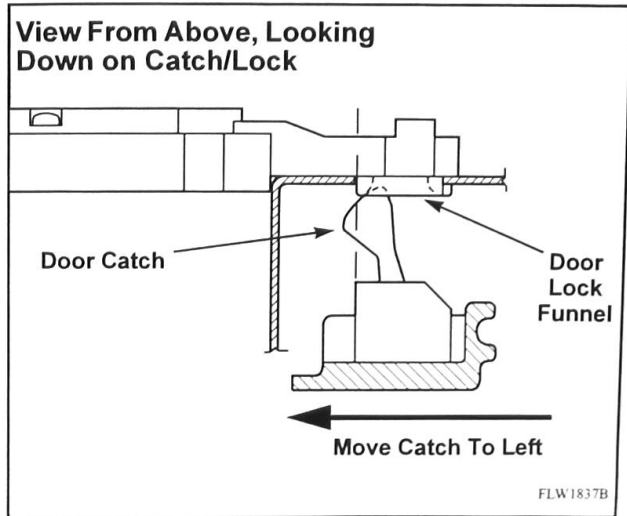

Figure 3
- b. Move door catch as far left (when facing machine with door almost closed) as the door lock funnel will allow. Refer to *Figure 3*.